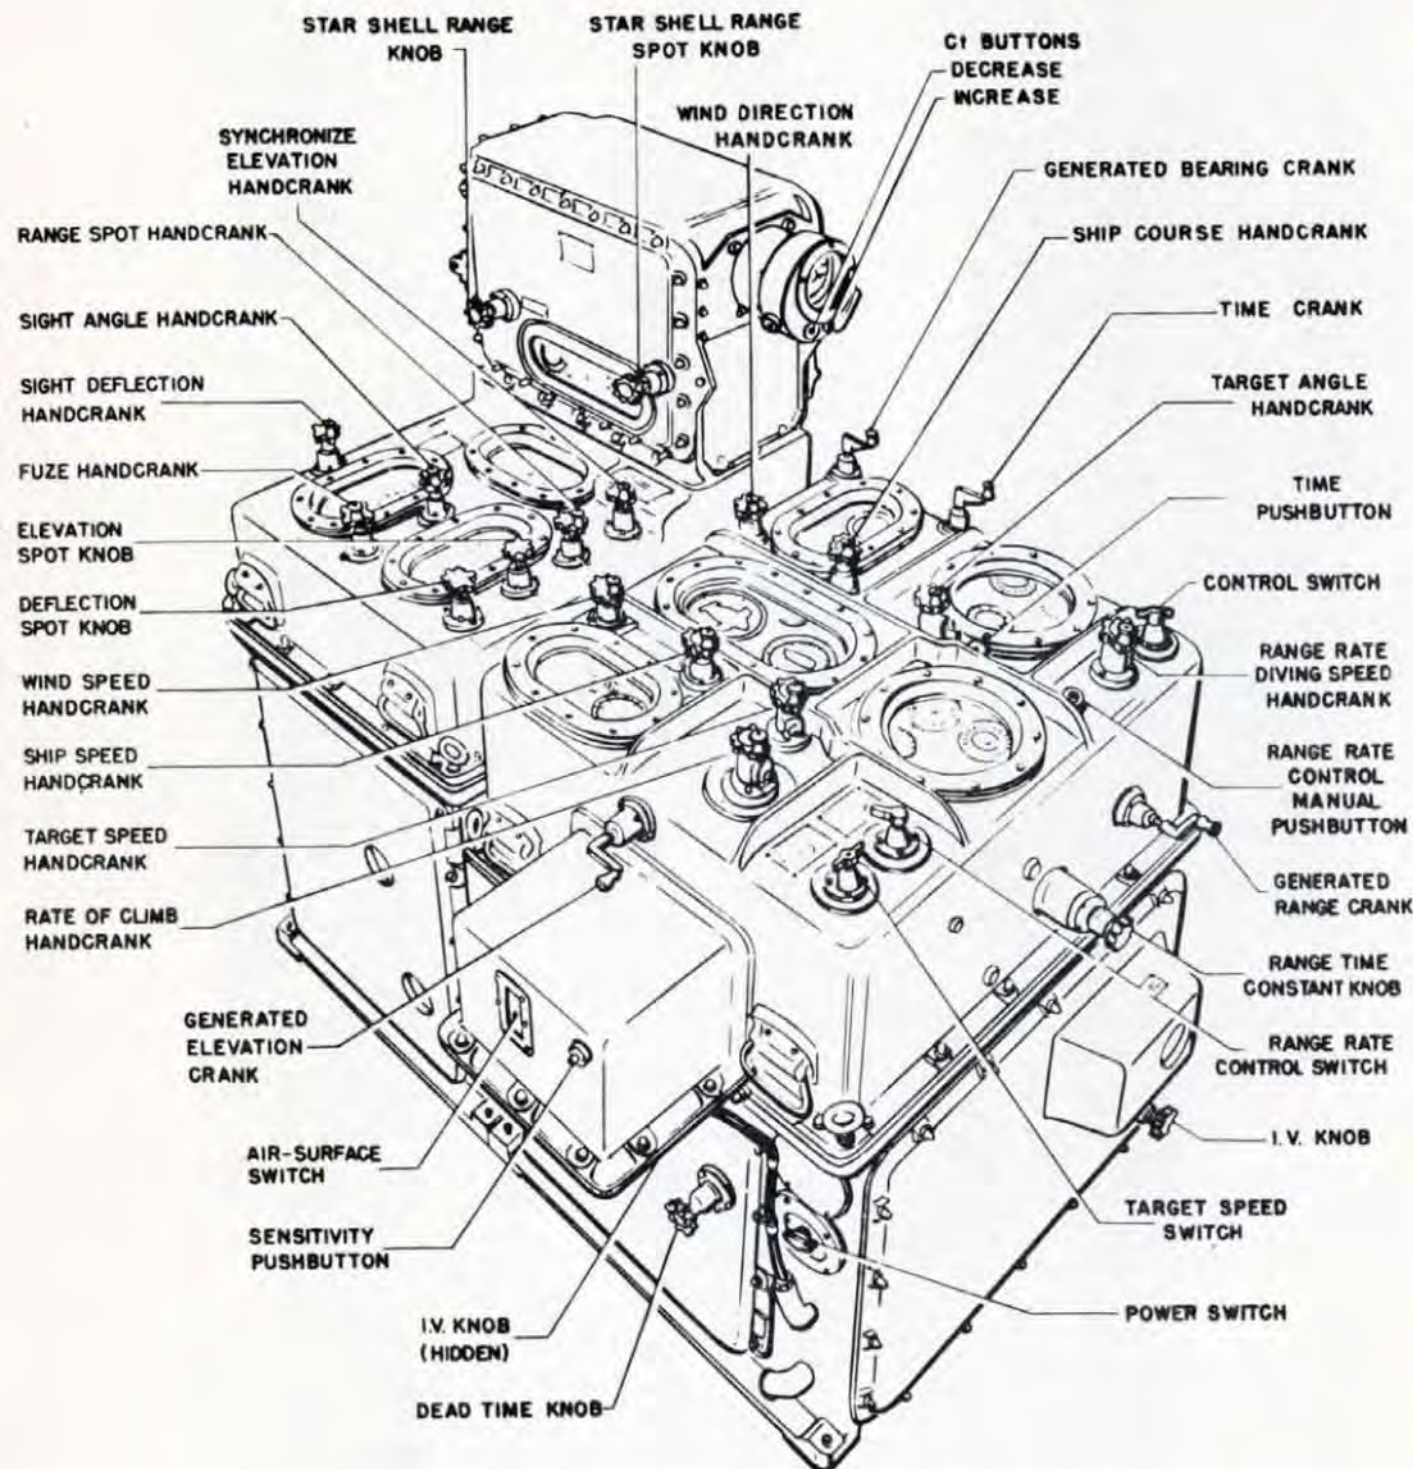

Figure 5. Computer Mk 1A — Operating Controls.
Note: The locations of the operating controls mentioned in items 1, 2, and 3 are indicated in figure 5.
The Time Push Button. In Computer Mk 1A, the time push button is located beside the time dials and adjacent to the range rate control manual push button (see figure 5). The time motor can be stopped or started by momentarily depressing the button.
The controls at the elevation station consist of the generated elevation crank, the rate of climb handcrank, the air-surface switch, and the sensitivity push button. The location of the generated elevation crank is the same as for a Computer Mk 1. The other three controls are located as indicated in figure 5.